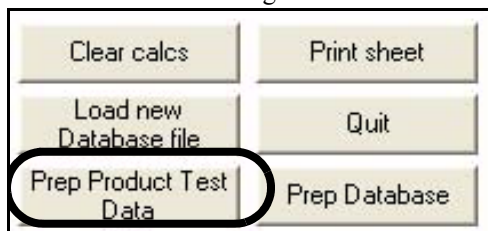

FIGURE 6-3 Load Product Test Data Sheet Module
B. The Exposure Assessment Page, by left clicking the “Prep Product Test Data” box as shown in Figure 6-3.